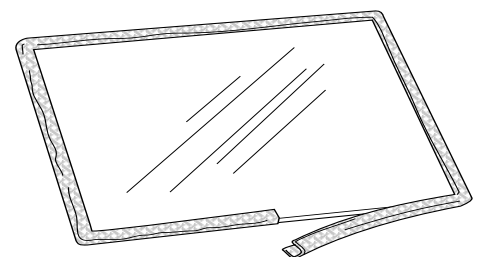

Figure 75.
1. Wrap the new gasketing material evenly around the edge of the glass, peeling back the protective strip to expose the adhesive as you go. See fig. 75. Press the adhesive side down onto the glass surface. Do not stretch the gasket.